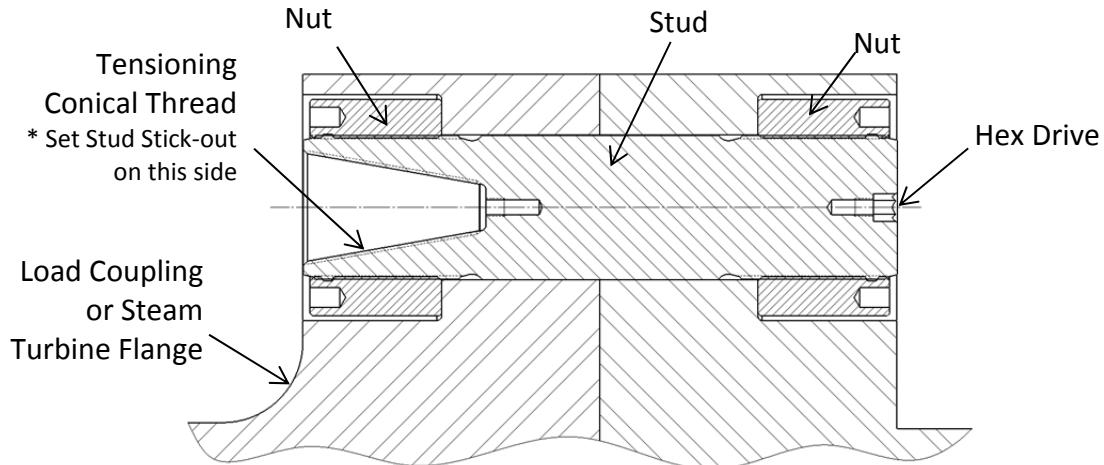

Figure 1 – Cross-section View of Bolted Flange Connection
2. Slide the stud and cylindrical nut assembly into the flange as shown in Figure 1.